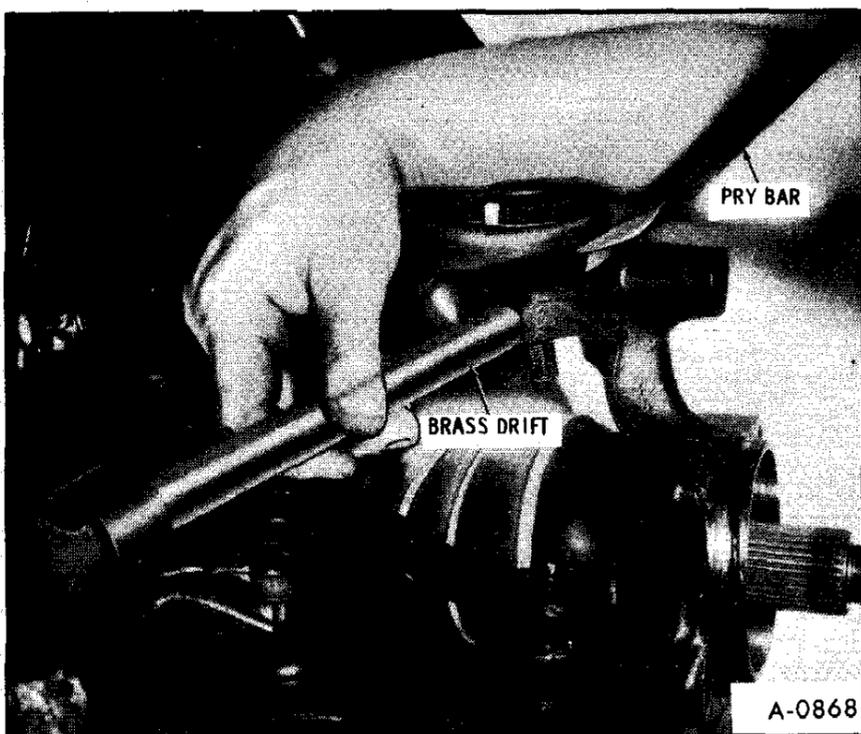

Figure 11—Removing Upper Ball Joint
4. Using a brass drift and hammer, and a pry bar, placed as in figure 11, loosen upper ball joint stud from knuckle. Remove upper ball joint from knuckle.
5. Using hammer and a drift (figure 11), drive on spindle until upper ball joint stud is disengaged from knuckle.